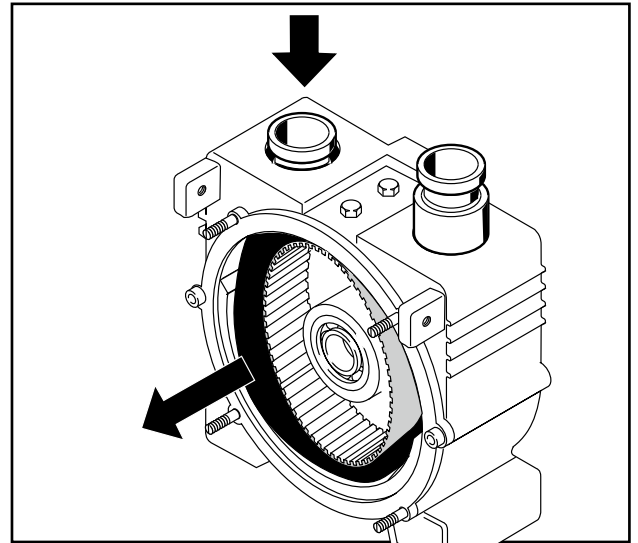

Fig. 12 Disassembly of pumping hose
8. Pull the pumping hose on the pressure side back into the housing, then pull it back on the suction side and take it out (Fig. 12 and Fig. 12).